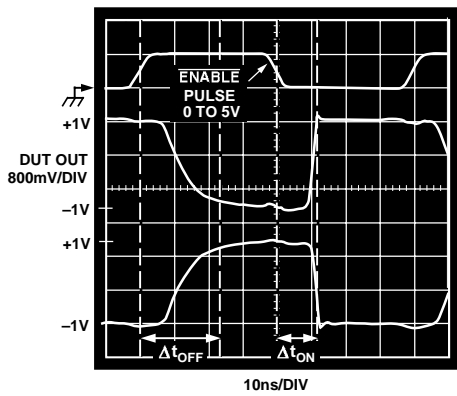

Figure 4. Enable and Disable Switching Characteristics
- 2ENABLE pin is driven with 0 V to +5 V pulse (with 3 ns edges). The state of the A0 and A1 pins determines which input is activated (refer to Table I). Set IN0 and IN2 = +1 V dc, IN1 and IN3 = -1 V dc, and measure transition time from 50% of ENABLE pulse (+2.5 V) to 90% of the total output voltage change. In Figure 4,  $\Delta t_{OFF}$  is the disable time,  $\Delta t_{ON}$  is the enable time.